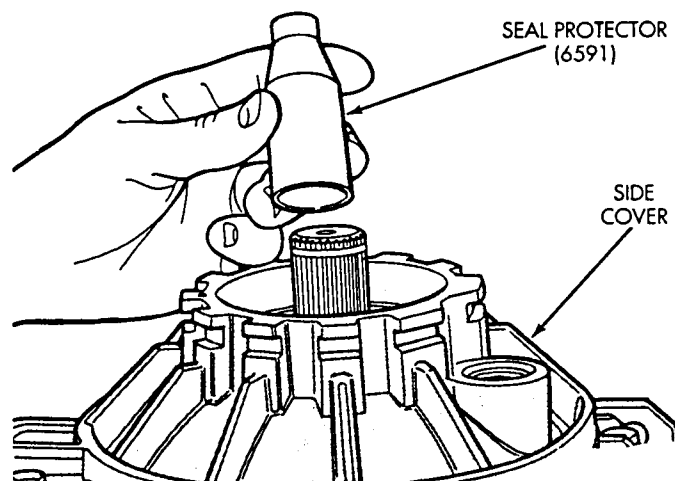

Fig. 19 Seal Protector
(22) Install seal protector (special tool 6591) as shown in figure 19). Apply a thin film of gear oil on the protector.